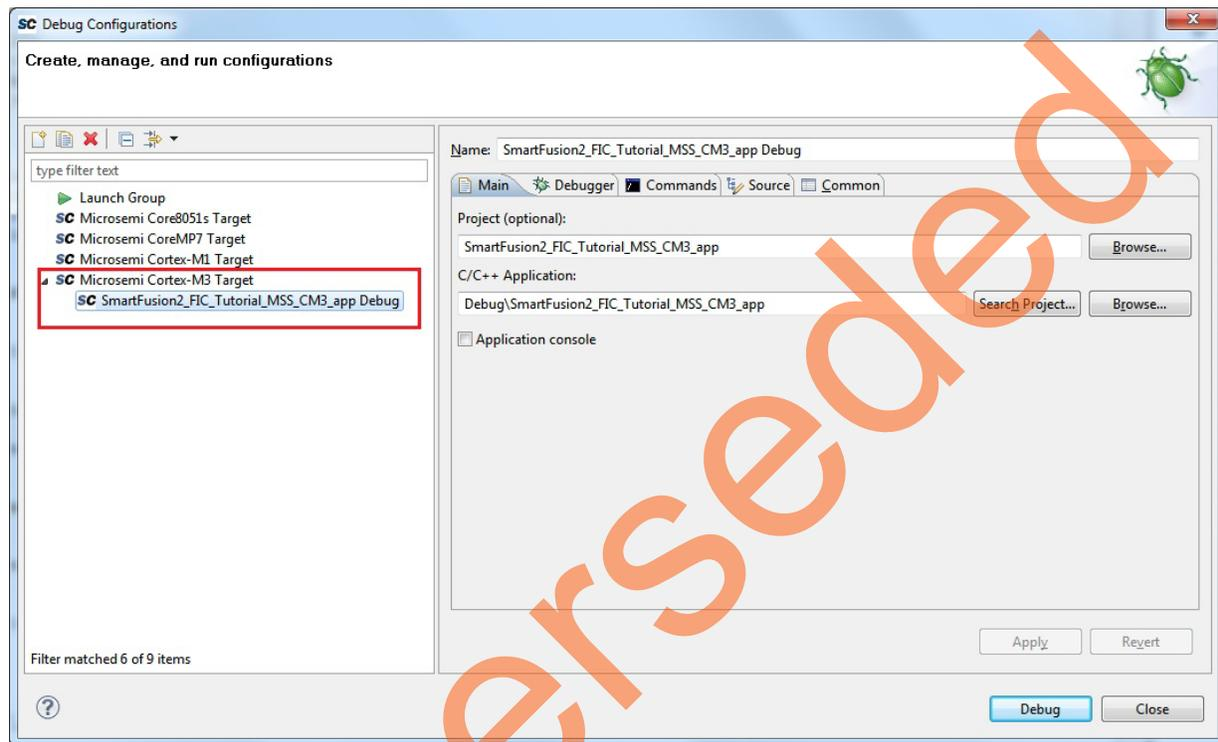

Figure 49 • Debug Window
3. Double-click on **Microsemi Cortex-M3 Target** to display an image similar to Figure 49.